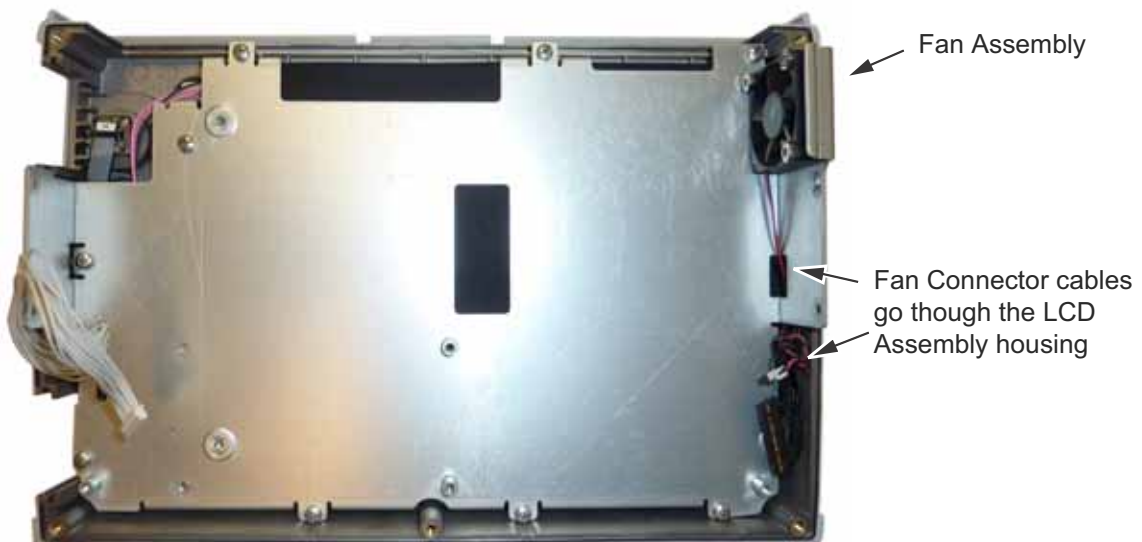

Figure 6-9. Front Panel Keypad Bezel
3. Remove the 3 screws and nuts holding the Fan Assembly to the LCD Assembly housing. Refer to \(Figure 6-9\).